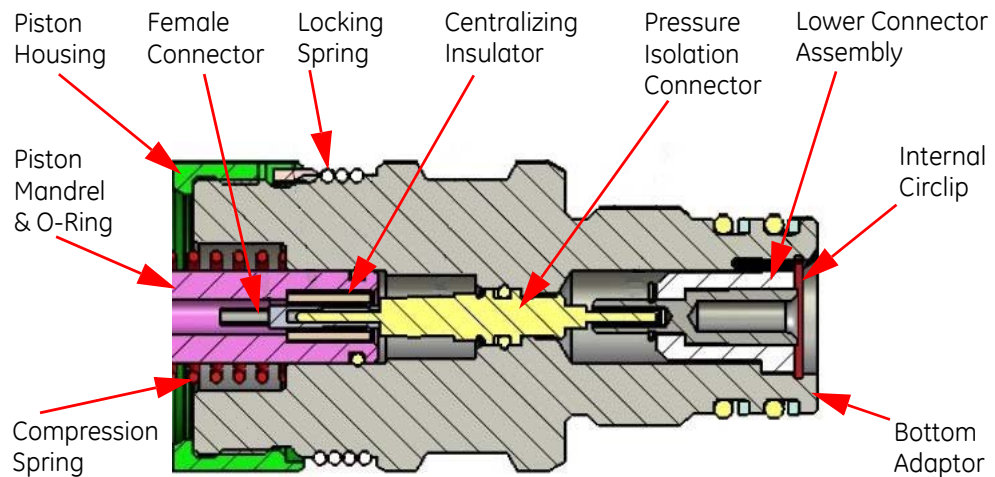

Figure 5-13 Location of components inside the Bottom Adaptor
- 2 Where removed, install the Lower Connector Assembly (*item 2*) in the lower end of the Bottom Adaptor (*item 10*). Refer to Section 5.4.2, Installation of the Lower Connector Assembly.
- 3 Apply a thin film of Liquid-O-Ring® type 101 (*P/N: LOR101*) to the new O-Ring (*P/N: 99008*) and to the groove in the Pressure Isolation Connector (*item 32*).
- 5 With reference to Figure 5-13, locate carefully and in the correct orientation the Pressure Isolation Connector in the upper end of the Bottom Adaptor.